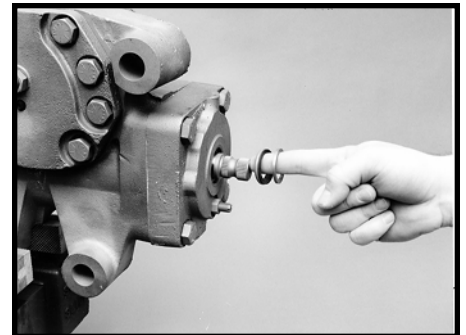

Figure 157
52. Apply clean grease in the input shaft seal assembly (7), washer (6) and to the input shaft. Install the new two-piece input shaft seal (7) flat side out and the steel backup washer (6), using seal driving tool J28490. Install the retaining ring (5). SEE FIGURES 157, 158.